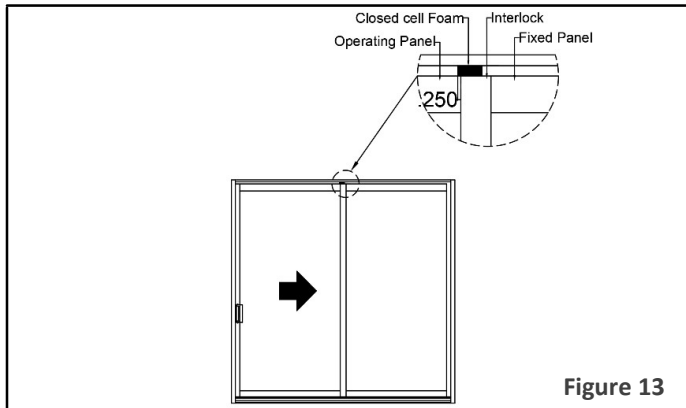
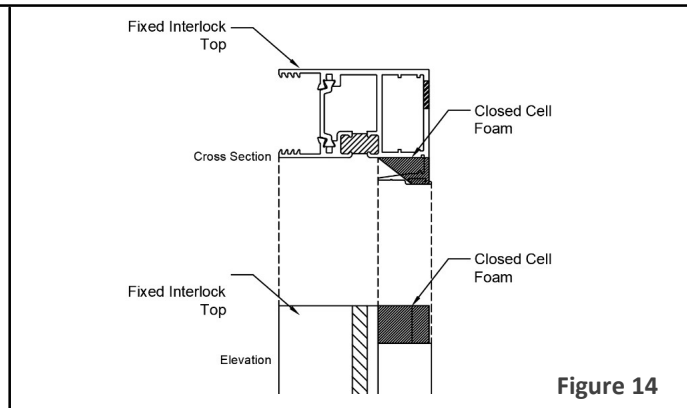

Figure 13
Figure 14
3.5 Install the closed cell foam (supplied in kit) above the fixed panel. It should be tight to all edges and past the interlock by at least 1/4" (figure 13). Install the second close cell foam on top of the notch of the fixed interlock (figure 14).